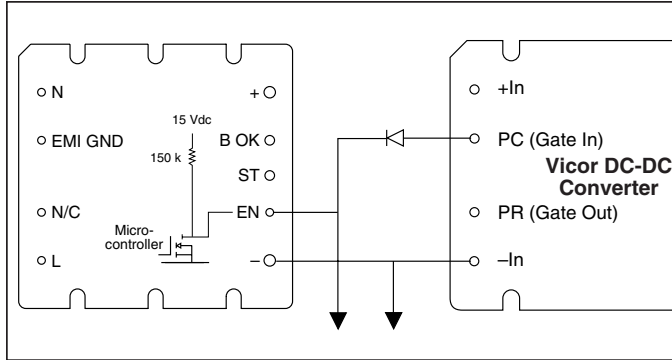

Figure 10 — Enable (EN) function
Enable (EN) Pin. (see Fig. 10) The Enable pin must be connected to the PC or Gate-In pin of all converter modules to disable the converters during power up. Otherwise, the converters would attempt to start while the hold-up capacitors were being charged through an unbypassed current limiting thermistor, preventing the bus voltage from reaching the thermistor bypass threshold, thus disabling the power supply. The Enable output (the drain of an N channel MOSFET) is internally pulled up to 15 V through a 150 kΩ resistor.